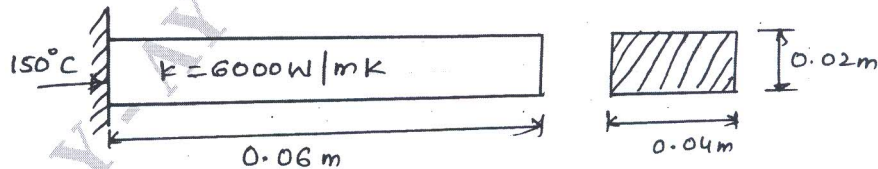

Fig Q8(b)
- b. Determine the temperature distribution in the rectangular fin shown in Fig Q8(b). Neglect convection heat transfer and assume heat generated inside the fin as 500 W/m^3 .